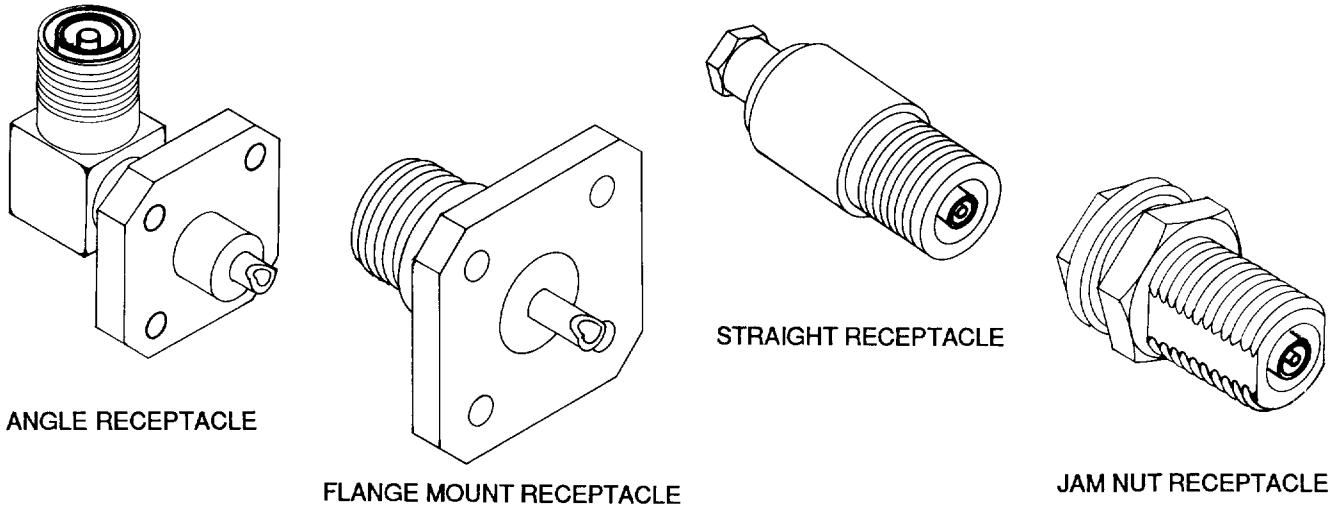

Figure 2. Typical Receptacle Styles
11. RF coaxial connectors are available in plug and receptacle types. Plugs may be straight, angle, or flange mount (Figure 1), and receptacles may be straight, angle, flange or jamnut mount (Figure 2).